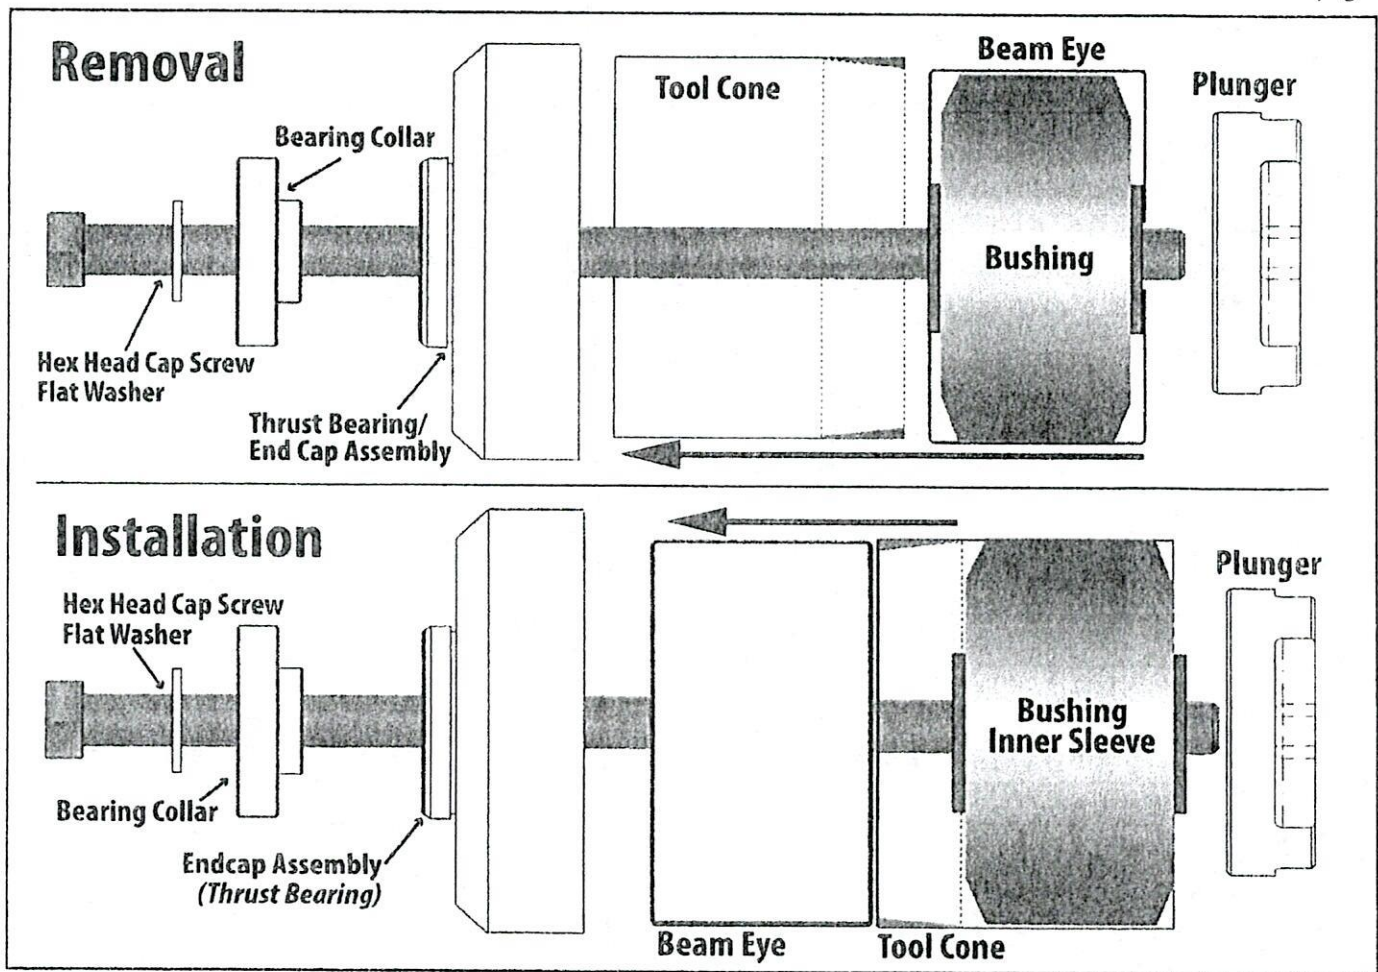

Figure 7.
Thread the flat washer, the bearing collar and the endcap onto the HHCS until the bearing collar and endcap rest against the head of the HHCS. Place tool cone onto endcap (Figure 7).
1. Push the HHCS through the inner sleeve until the tool cone is against the beam eye. Thread the plunger onto the HHCS until the tool cone is held firmly against the beam (Figure 7).